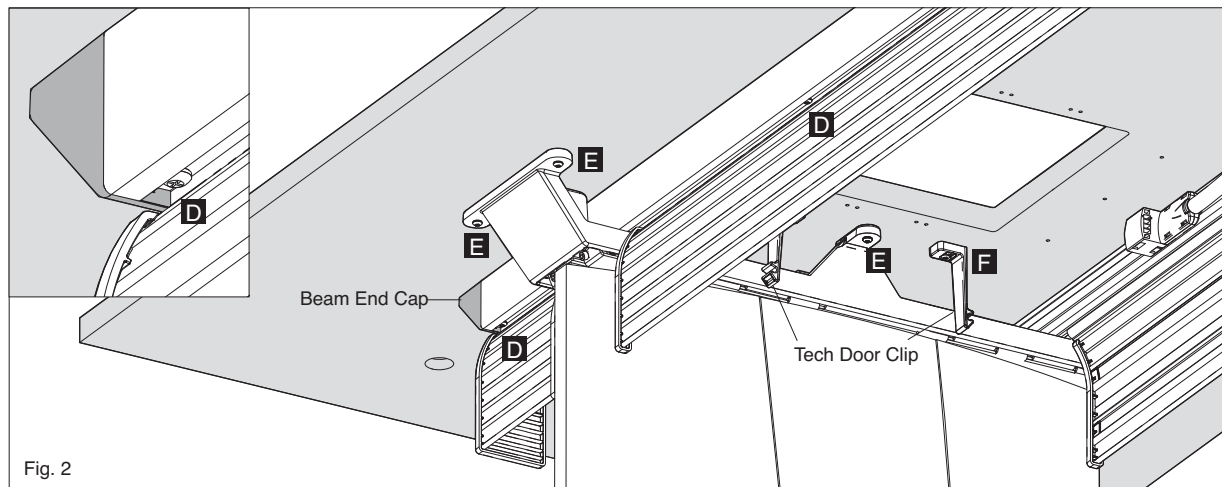

Fig. 2
Start screws (D) through beam end caps and beams in to pilot holes in the table top. After all beam screws are started, finish tightening all beams screws from the center to the ends. See Fig. 2.
Install screws (E) through bracket casting holes into pilot holes in the table top. (6 screws/bracket). See Fig. 2.
Install each door clip with screws (F) into pilot holes in the table top. (2 screws/clip). See Fig. 2.